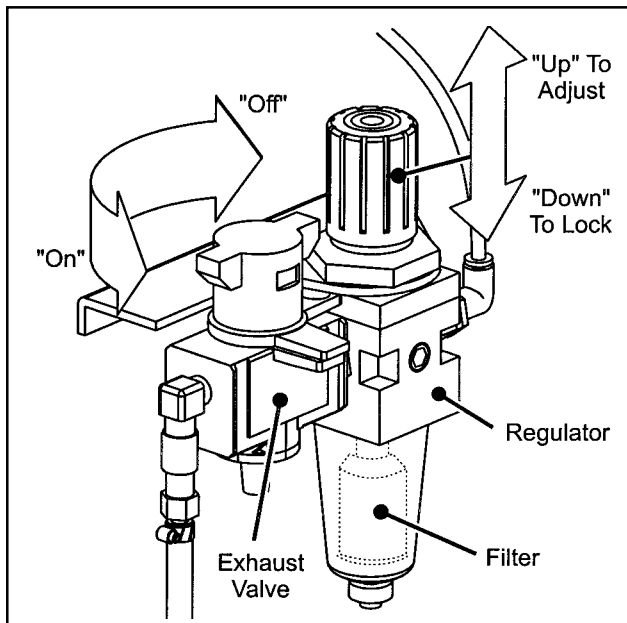

Figure 3-3 – "On/Off" Valve/Regulator/Filter
- 2 Main Air "On/Off" Valve/Pressure Regulator/Filter – Figure 3-3**